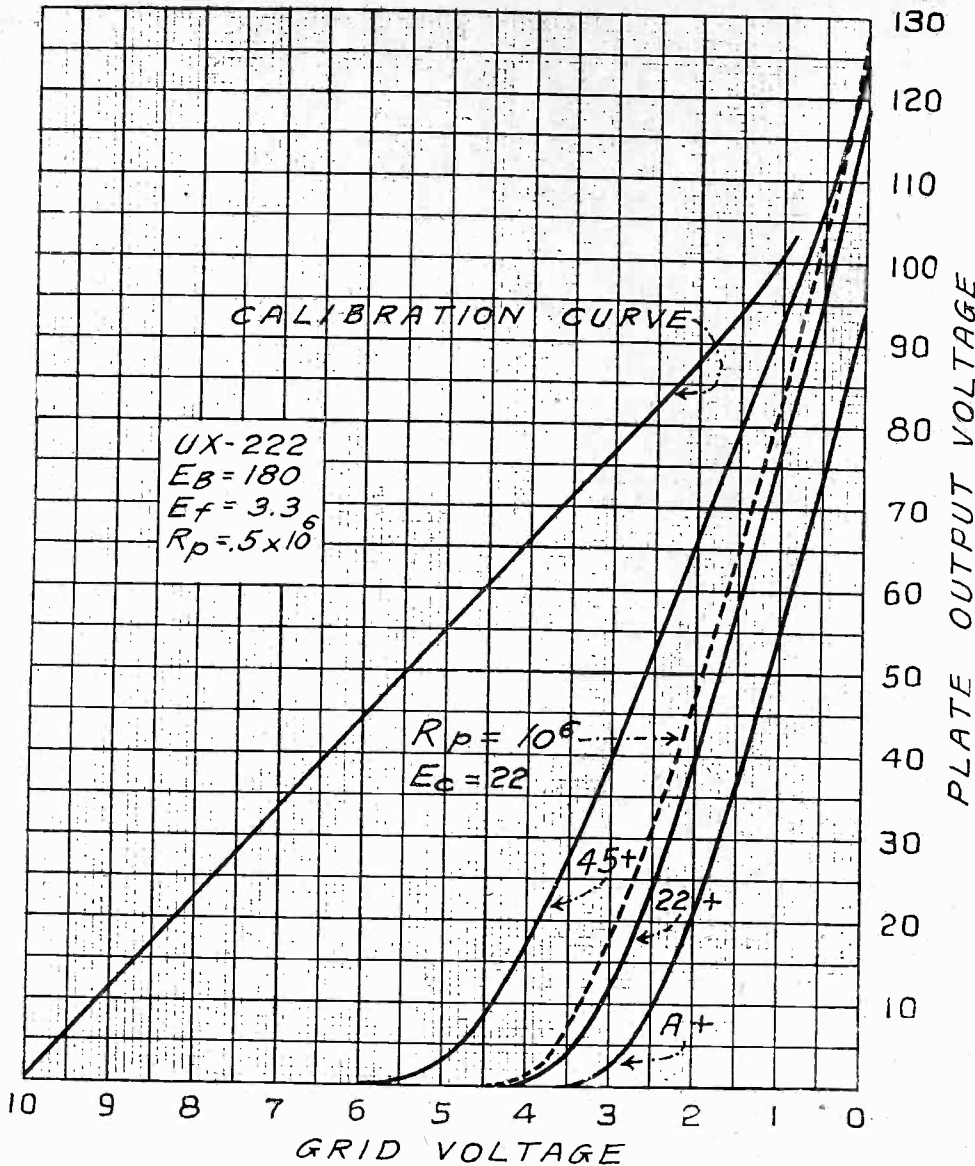

FIG. 720
- (1) You will find the curves in Fig. 720.
- (2) No, not if an even response is essential. The high notes will be suppressed.
- (3) The effective input capacity is too high.
(4) No. Particularly not if the tube is preceded by a tuned circuit. The high effective input capacity is in shunt with the tuning condenser and this throws the tuning off. It is also almost impossible to cover the broadcast band because of the excessive zero setting capacity.